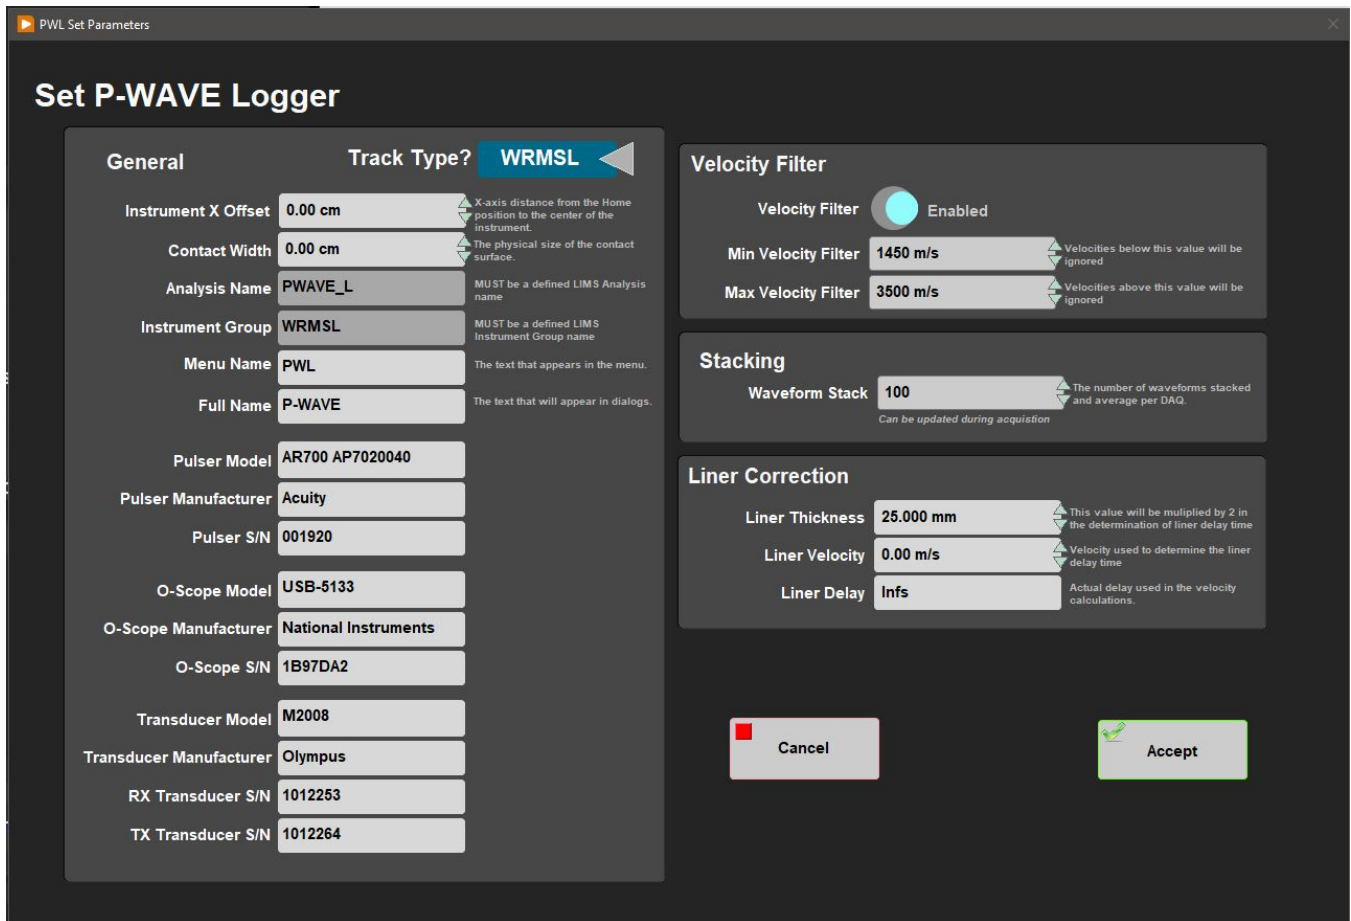

Figure 8. Pwave Setup window.
9. Last accepted calibration could be reviewed under **Instruments > PWAVE: Setup** (Figure 8).